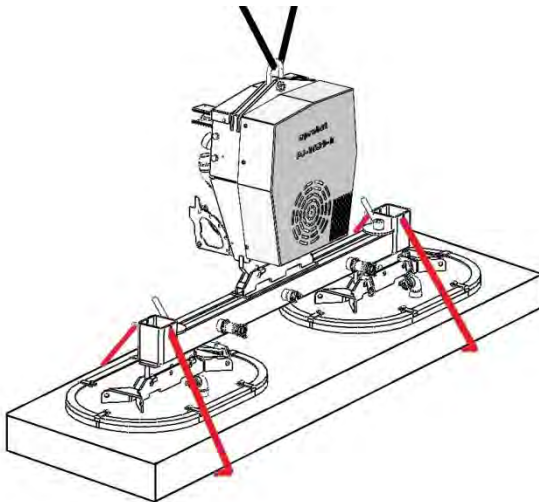

Fig. 1
The suction plates must always have the *same* distance (A) to the vertical centre axis of the spreader bar (see figure 1).
- The safety chains must fit tightly to the load, in that way that the load is held in case of a vacuum failure (Fig. 1)